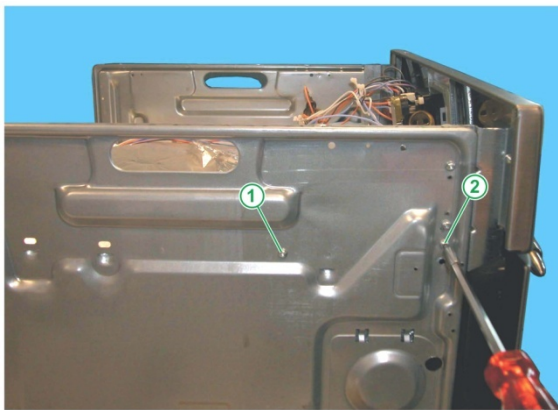

Fig. 7
9. Unscrew the 4 fixing screws on the sheet metal controls protection (see Fig. 7).